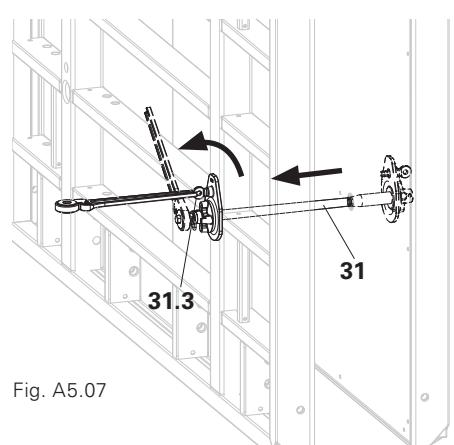

Fig. A5.07
1. Release ring bolt (31.3) using the Tie Rod Spanner or scaffold ratchet (57).
2. Screw out MX 18 Tie (31) with the Tie Rod Spanner.
- (Fig. A5.07)